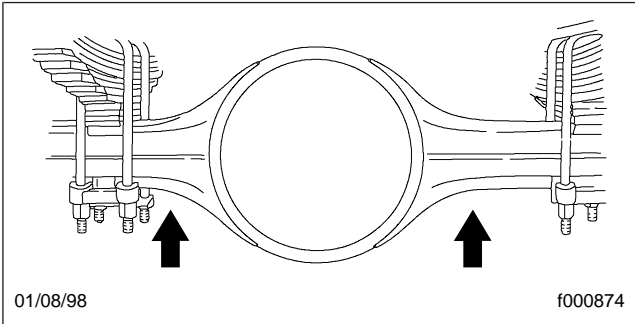

Fig. 4, Rear Lifting Points
4. Tighten the wheel nuts 68 N·m (50 lbf·ft), following the sequence in **Fig. 4**.
2. See **Fig. 4** for the rear lifting points.